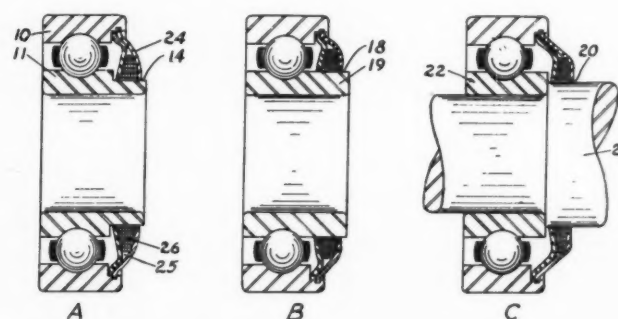

Fig. 4—Three sectional views showing oil retention construction for ball bearings. Two plates with felt between comprise seal
**I**MPROVEMENT in oil retention construction for ball bearings is covered by a patent granted recently to George O. Hodge and assigned to Standard Steel & Bearings Inc., division of Marlin-Rockwell Corp., Plainville, Conn. The patent number is 1,839,677. Fig. 4 shows three sectional views. In that depicted by A, the rotating contact surface or face 14 is part of inner ring 11; B shows seat 18 as part of the inner ring 19, being of plain cylindrical form without any shoulder; in the structure, C, Fig. 4, the seat 20 is provided by the supporting shaft 21, the inner ring 22 terminating adjacent seat 20.